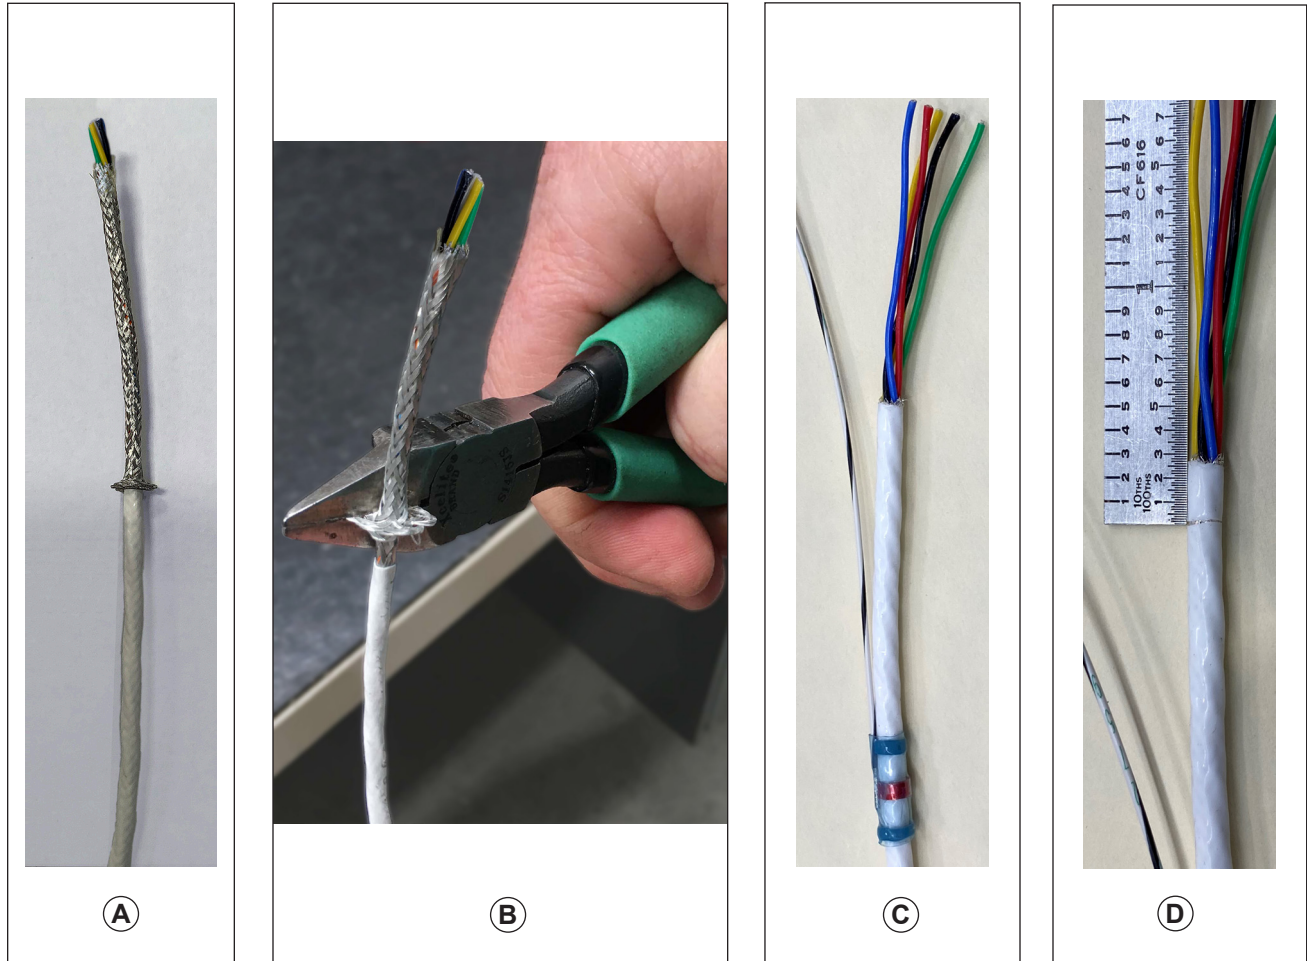

FIGURE 4 Removing outer jacket & braided shielding
8. Refer to Figure 4. Lightly score (cut without fully penetrating) white outer jacket approximately 1.75 inches from end. Twist scored jacket until score opens, then remove jacket to expose underlying, braided shielding. Push shielding toward remaining jacket to create flange in shielding (A). Using cutters as shown in (B), remove shielding flange then slide off loose shielding to expose inner, insulated wires. Verify complete removal of shielding by inspection using 10X magnification.
9. Remove outer reinforcing fibers, spread inner wires, and remove inner reinforcing fibers. Slide a B267-3 terminator a few inches over remaining jacket so attached black-striped shield drain wire points toward exposed inner wires (C). Score jacket 1/4 inch from stripped jacket end, being careful not to damage shielding or internal wires (D). Remove scored 1/4 inch jacket piece, exposing shielding 1/4 inch beyond outer jacket.
29. Refer to Figure 4. Lightly score (cut without fully penetrating) white outer jacket approximately 1.75 inches from end. Twist scored jacket until score opens, then remove jacket to expose underlying, braided shielding. Push shielding toward remaining jacket to create flange in shielding (A). Using cutters as shown in (B), remove shielding flange then slide off loose shielding to expose inner, insulated wires. Verify complete removal of shielding, and no insulation damage, by inspection using 10X magnification.